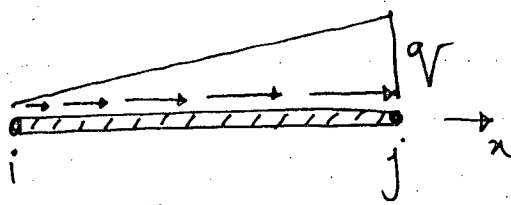
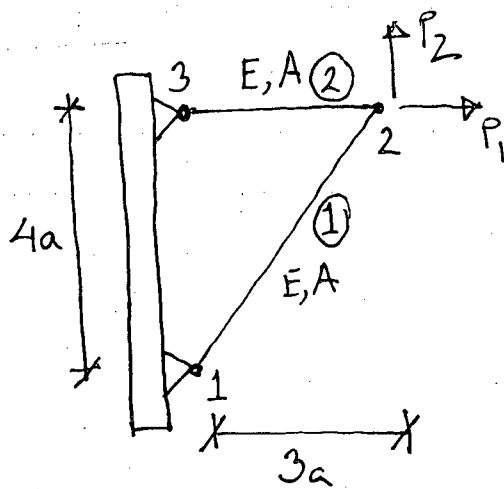

Fig. 7
Fig. 8
4. (a) A two noded bar element shown in Fig. 7 is subjected to a triangularly varying axial load with intensity zero at the i-node and maximum intensity q at the j-node. Determine the nodal force vector. (8 1/3)
- (b) What do you understand by 'Transformation Matrix'? (3)
- (c) A simple plane truss is made of two bars and loaded as shown in Fig. 8. Find (i) displacement of node 2 and (ii) strain-energy in each bar. (12)